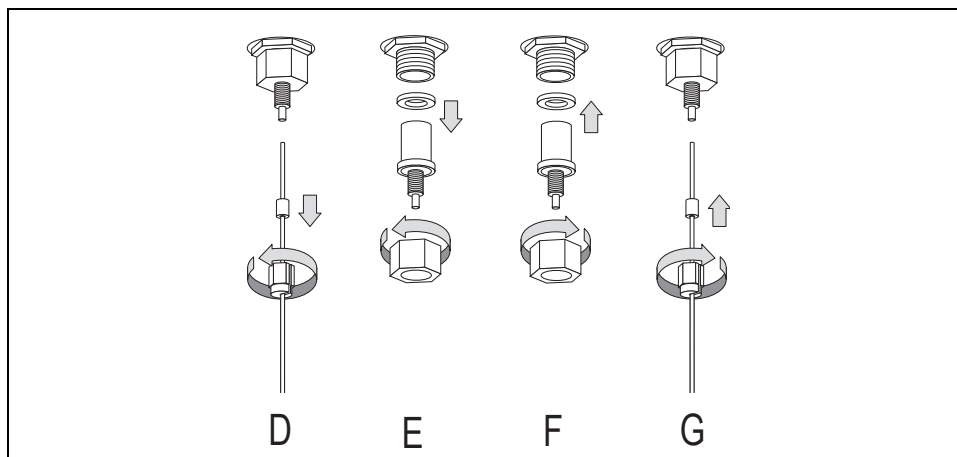

Figure 15-3. Replace a Broken Liner
- Unscrew the nut that retains the analytical column, then move the analytical column with its ferrule. See D of Figure 15-3.
- Unscrew the retaining nut at the bottom of the injector, then remove the terminal fitting with its silver seal. See E of Figure 15-3.
- d. Reinsert the silver seal and the terminal fitting, and then tighten the nut that retains the terminal fitting. See F of Figure 15-3.
- e. Insert the analytical column with its ferrule into the bottom of the injector in its previous position, then tighten the M4 retaining nut to hold the column in place. See G of Figure 15-3.